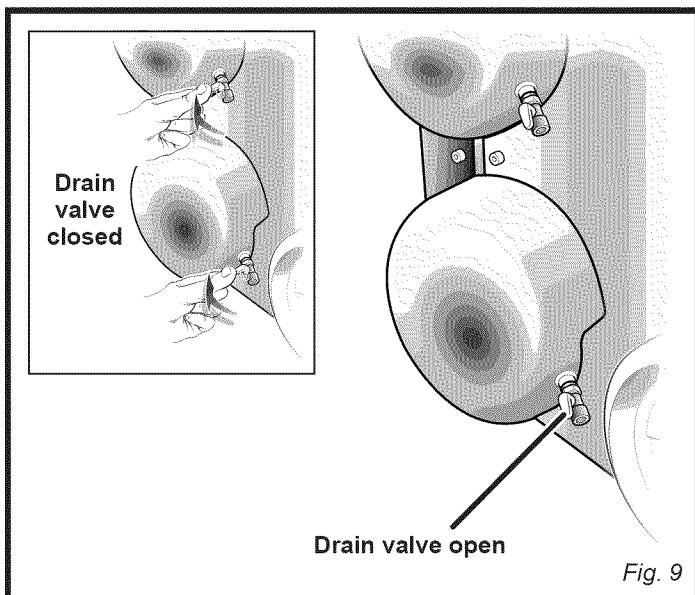

Fig. 9
See figure 9.
- Open the drain valve by rotating it $\frac{1}{4}$ turn counterclockwise (fig. 9).
- Close the drain valve by rotating it $\frac{1}{4}$ turn clockwise (fig. 9).